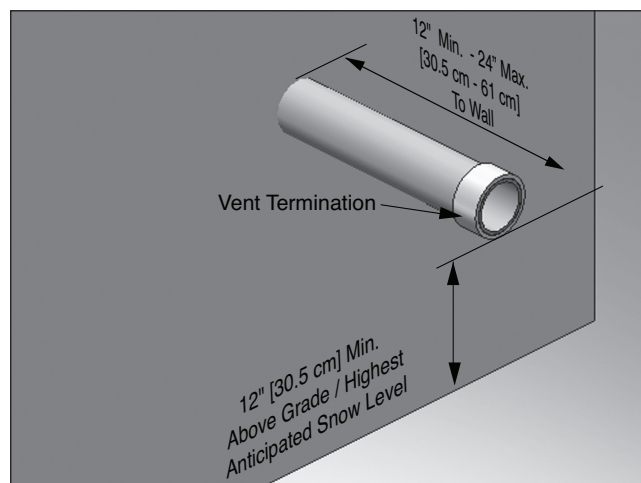
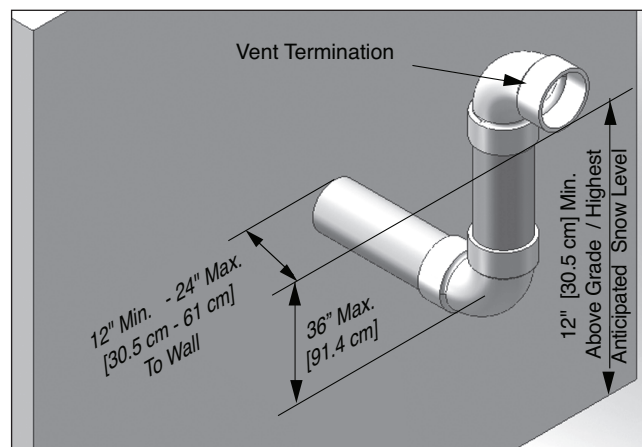
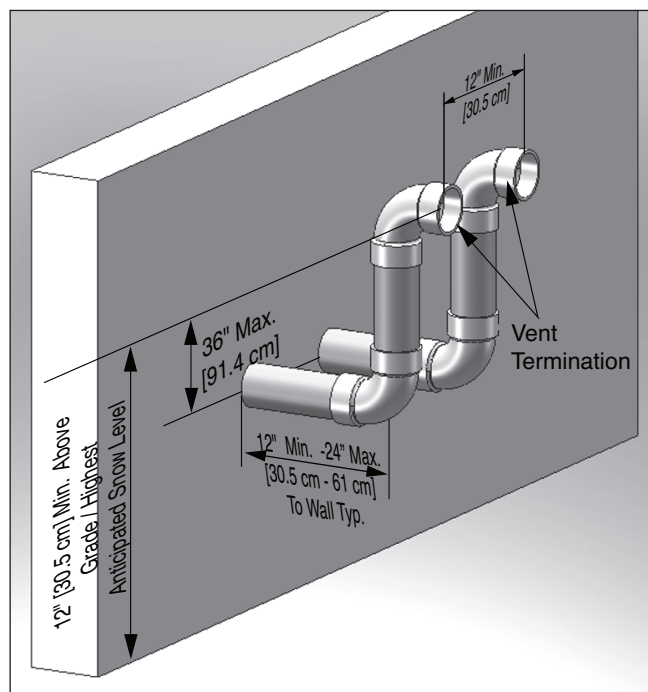

Fig. 17 - Category IV - Sidewall Termination of Vent Pipe
Fig. 18 - Category IV - Sidewall Snorkel Termination of Vent Pipe
Fig. 19 - Category IV - Sidewall Termination of Multiple Prestige Boilers
- Using a coupling as shown in **Fig. 17**.
- Using a 90° elbow as shown in **Fig. 18**.
3. Locate the vent pipe penetration to provide clearances as described in *Fig. 17* and *Fig. 18 on page 28*.
- Using a coupling as shown in *Fig. 17 on page 28*.
- Using a 90° elbow as shown in *Fig. 18 on page 28*.
Do not extend the vent pipe outside the sidewall beyond the dimensions shown in *Fig. 17* and *Fig. 18 on page 28*. Extended exposure of the vent pipe could cause condensate to freeze and block the vent pipe, resulting in substantial property damage, serious injury, or death.
2. Each vent termination must be a minimum 12" [30.5 cm] from the adjacent termination for installations in the U.S. as shown in *Fig. 19 below*. For installations in Canada, provide clearances as required by CAN/CSA B149.1.
- *Fig. 19 shows one option for vent terminations of multiple PRESTIGE boilers. Either termination option shown in *Fig. 17* or *Fig. 18 on page 28* can be used for multiple PRESTIGE boilers. The 12" [30.5 cm] minimum distance between centerlines of the vent piping must be maintained for any chosen option.*
- *Reference *Fig. 17* and *Fig. 18 on page 28* for vent termination dimensions for each unit installed in a multiple installation.*